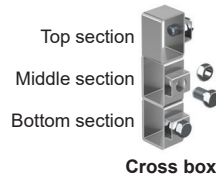
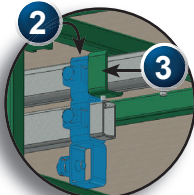

fig. 8.31
fig. 8.40
- 2- Insert the **top section** of a cross box (fig. 8.31) on the rear end of the outrigger ("2" in fig. 8.40, p. 96).
- 3- Push the outrigger in the top rear outrigger pocket ("3" in fig. 8.40).